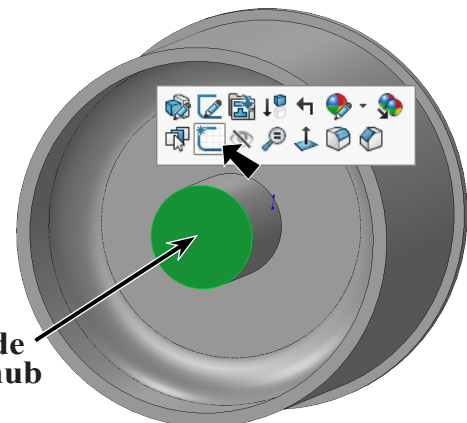

Fig. 12
Step 1. Rotate view to view **inside of rim**, hold down middle mouse button (wheel) and drag to rotate view, **Fig. 12**.
Step 2. Click **inside face of hub** and click **Sketch**  on the context toolbar, **Fig. 12**.
Step 3. Click **Circle**  (S) on the Sketch toolbar.